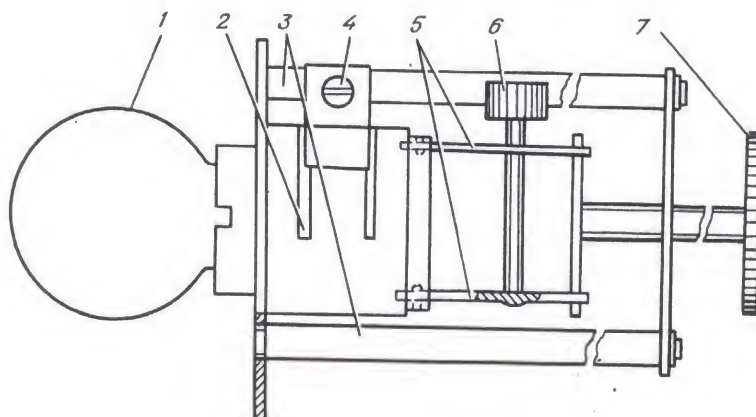

FIG. 108. LENGTHWISE FOCUSING OF SPOTLIGHT
- (a) drive legs 3 (Fig. 108) of the focusing device into the holes of the disc of focus unit 2 as far as they go;